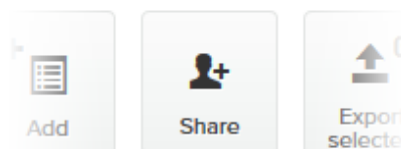

Figure 74. Plug-ins web page (Share button)
4. Click the **Share** button in the upper left-hand corner of the **Plug-ins** web page (Figure 74 \(page 152\)).